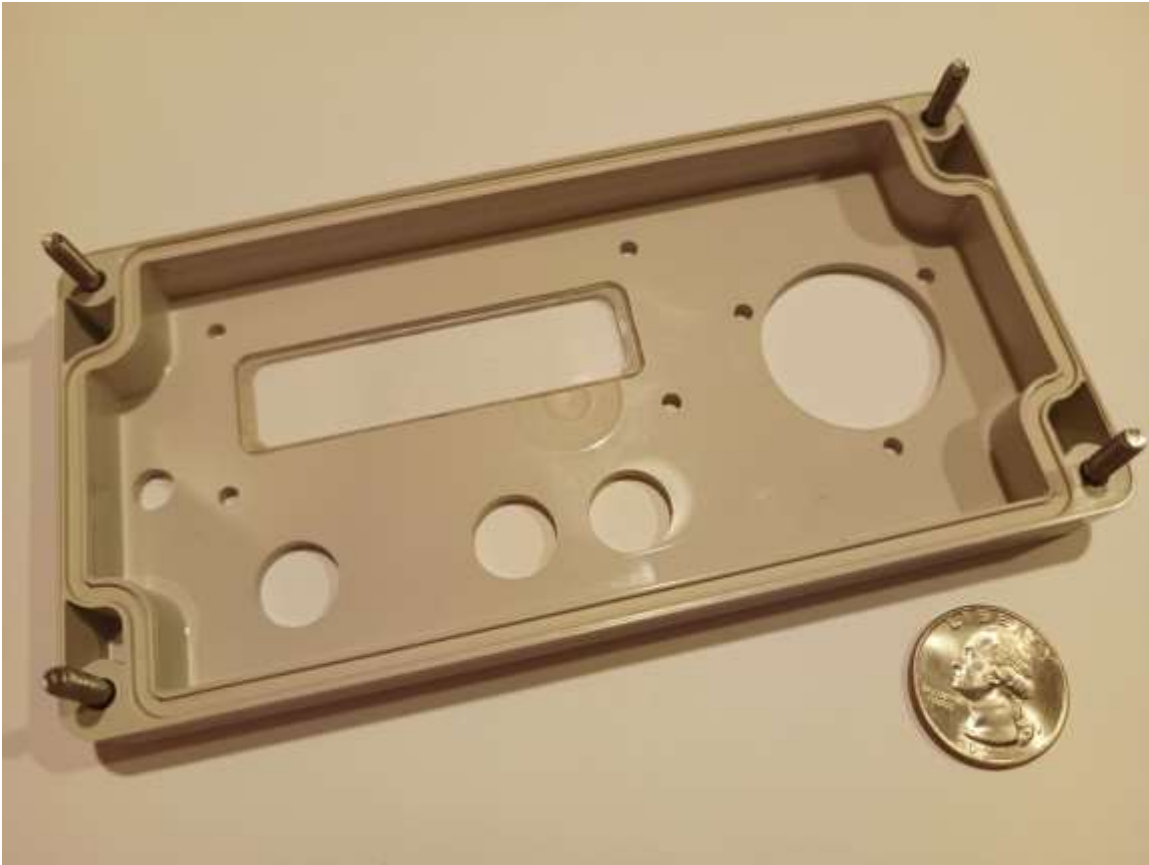

Figure 3. Machined Case Lid Assembled with Acrylic Window
2. Cut a rectangular piece of 1/16-in. (1.6 mm) thick acrylic or polycarbonate sheet to 2.719 x 0.719 in. (69.1 x 18.3 mm). Round off the corners and glue the window to the case from the inside. The completed lid is shown in Figure 3.